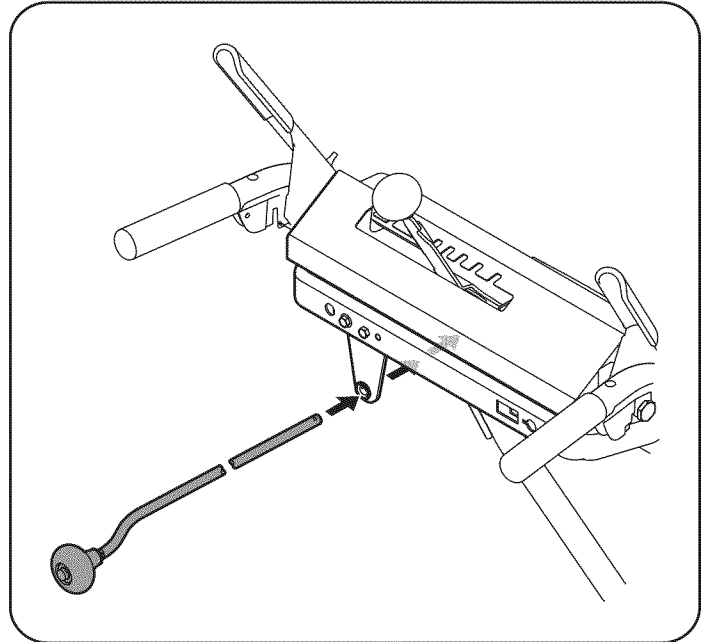

Figure 6
7. Insert the chute directional control into the support bracket on the rear of the dash panel. See Figure 6.